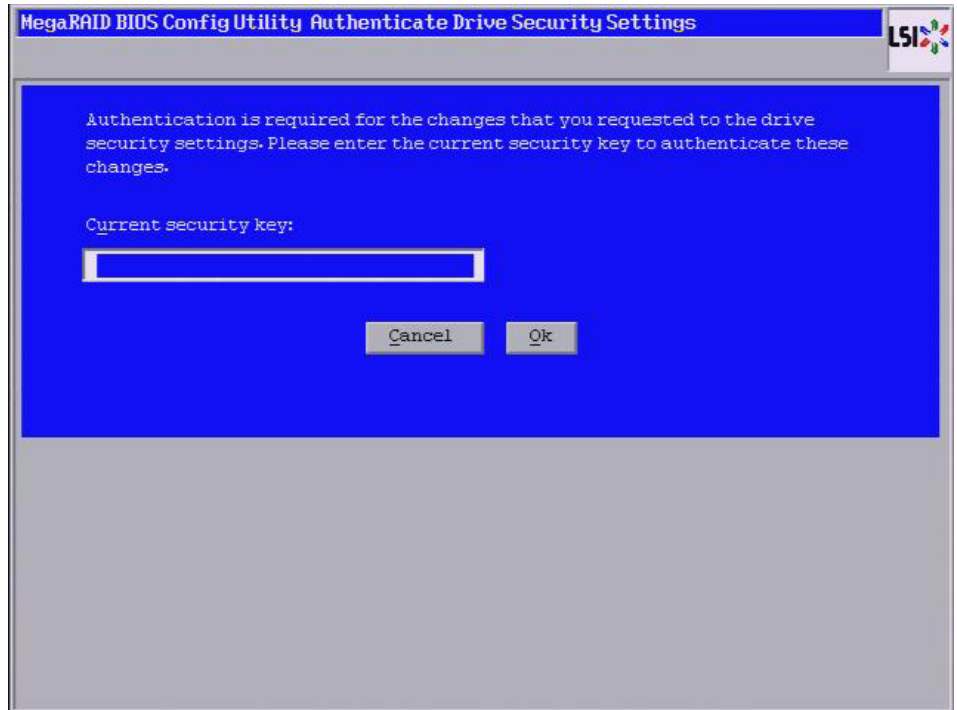

Figure 88: Authenticate Drive Security Settings Dialog
9. Click **Accept**. The Authenticate Drive Security Settings dialog (Figure 88) appears in either of the two scenarios mentioned below.
The Authenticate Drive Security Settings dialog is displayed (Figure 88).